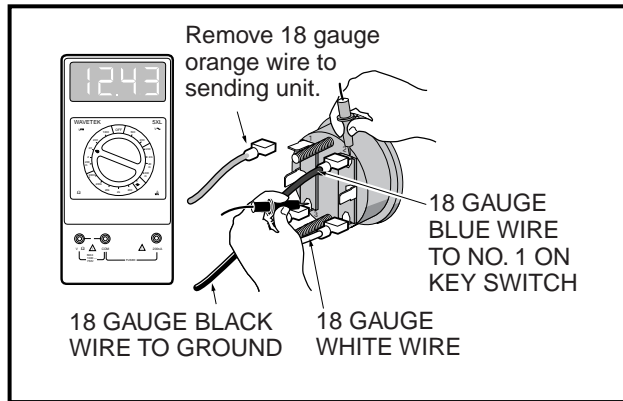

Figure 11-45 Fuel Gauge Test
6. Set a multimeter to 20 volts DC and place the red (+) probe of the multimeter on the (2) terminal of the fuel/hour gauge with the blue wire. Place the black (–) probe on the (3) terminal of the fuel/hour gauge with the black wire (**Figure 11-45, Page 11-41**).
8. Turn the key switch ON. The voltage reading should be the same as the battery voltage reading recorded earlier. If not, check the continuity of the blue and black wires (**Figure 11-45, Page 11-41**).